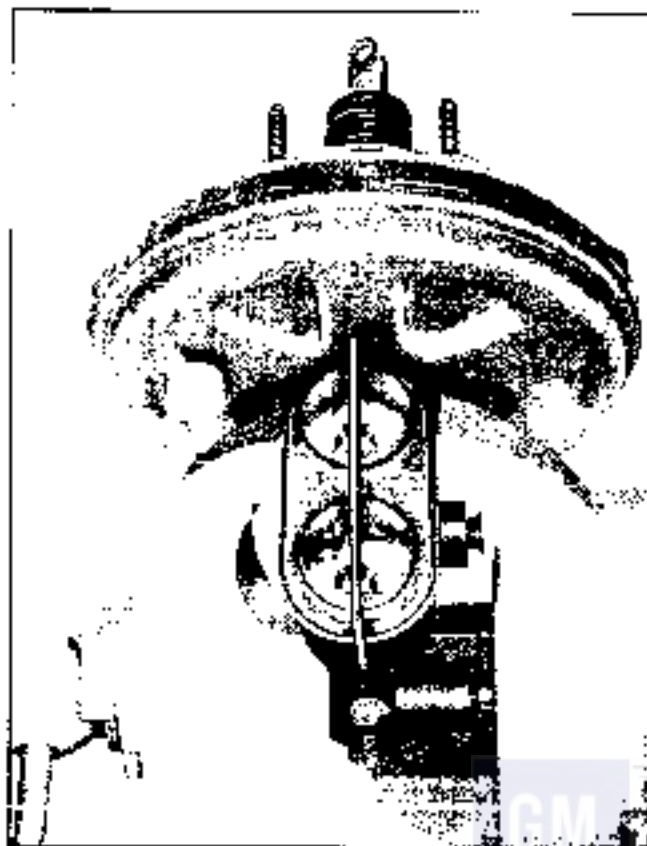

Fig. 5A-4 Brake Unit Mounted In Vise
1. Remove lock ring from power piston by prying from under locking lugs. (Fig. 5A-9)
2. Remove reaction retainer, vacuum cylinder push rod, reaction plate, three reaction levers and air valve spring. (Fig. 5A-10)